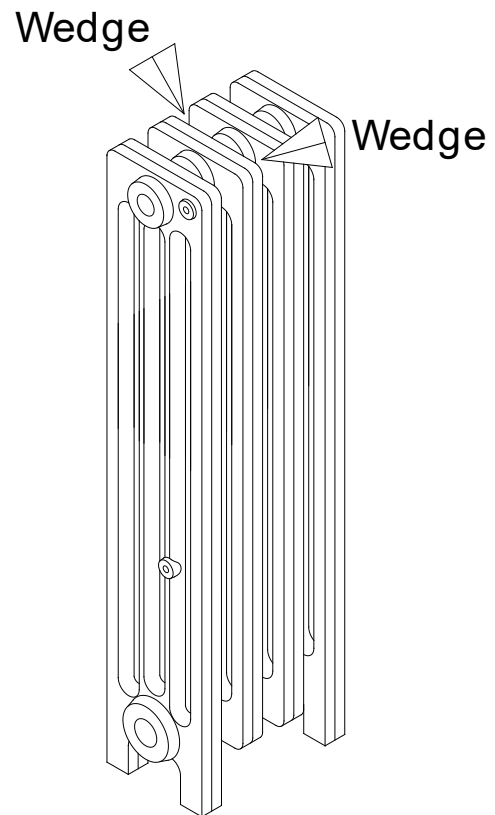

Figure 3-3
B. Section Disassembly (Refer to Figure 3-3)
4. Using a two (2) plastic or wooden wedges and a 5-pound hammer, position the wedges on either side of the top nipple port and strike with hammer. Alternate between wedges.